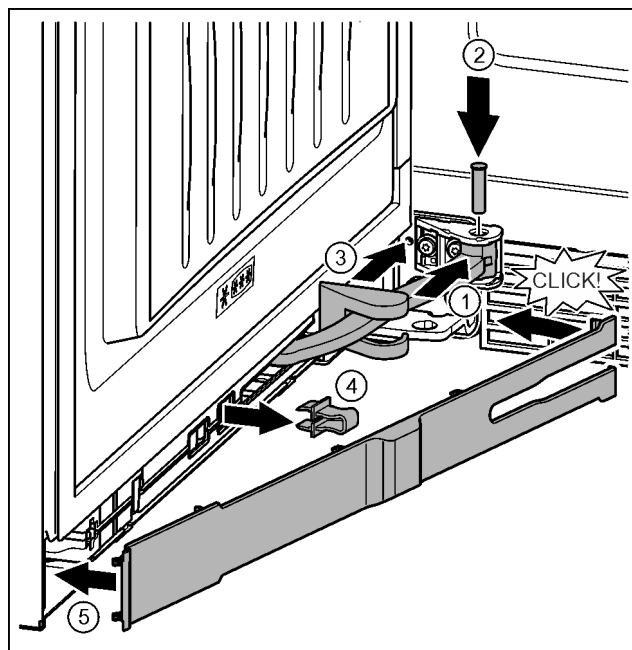

Fig. 40
- Turn the hinge in the mount. *Fig. 40 (1)*
- Insert the bolt with a T15 screwdriver in the mount and hinge. Make sure that the catch mechanism is sitting correctly in the groove. *Fig. 40 (2)*
- ▶ Push the bearing bracket cover along the hinge and fit on the mount. *Fig. 40 (3)*
- ▶ Remove the locking device. *Fig. 40 (4)*
- ▶ Position the panel on the handle side and swing it in. *Fig. 40 (5)*